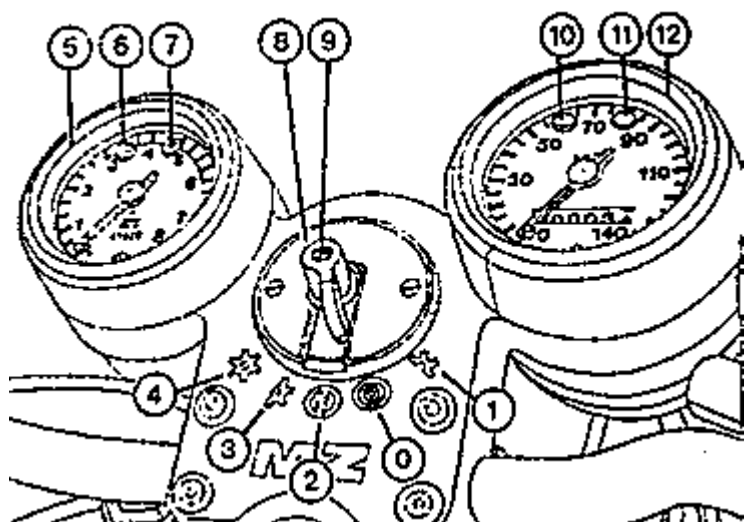

Fig. 3. Instruments (deluxe model)
- (1) Ignition and light switch (switch positions as shown in Fig. 3)
- (2) Speedometer with kilometer counter
- (3) High-beam headlight indicator (blue)
- (4) Tell-tale light for dynamo and flashing-light direction indicator system (green)